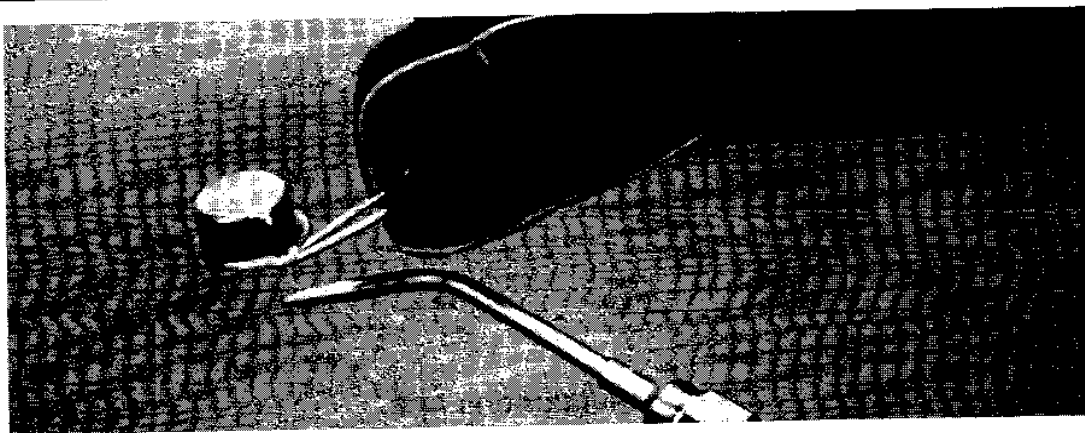

Figure 17, Lighting the Torch
8. Hold the torch in one hand and the spark lighter in the other (see Figure 17, page 25). Be sure the spark lighter is away from the tip and not obstructing the gas flow.